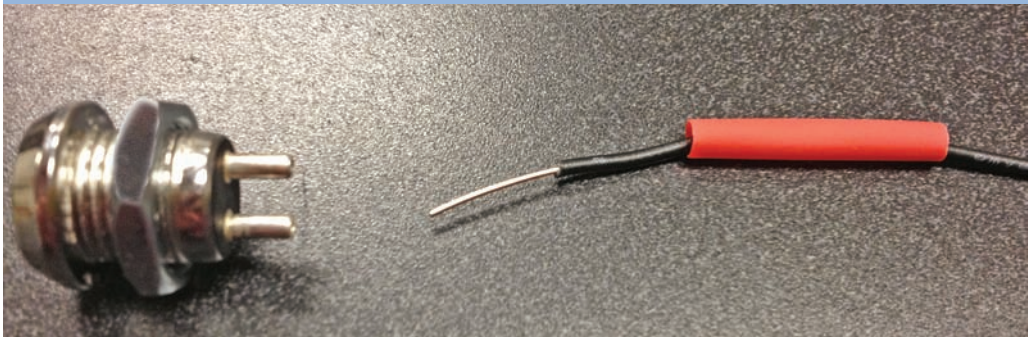

FIGURE 2.12 The keylock switch's terminals are smooth posts. You need heat-shrink tubing to connect the wire.
1. Strip about a half inch of insulation from one end of a wire, and thread about an inch of heat-shrink tubing onto the wire, as shown in Figure 2.12.